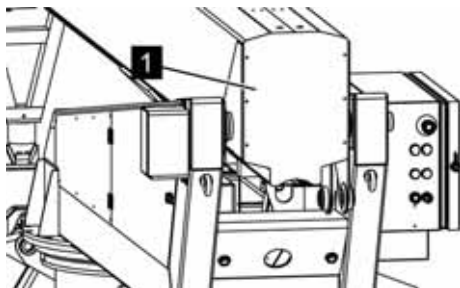

Fig. 124: Service flap
2. ➤ Unscrew the service flap (Fig. 124/1).
4. ➤ After cleaning, screw the service flap (Fig. 124/1) back on.